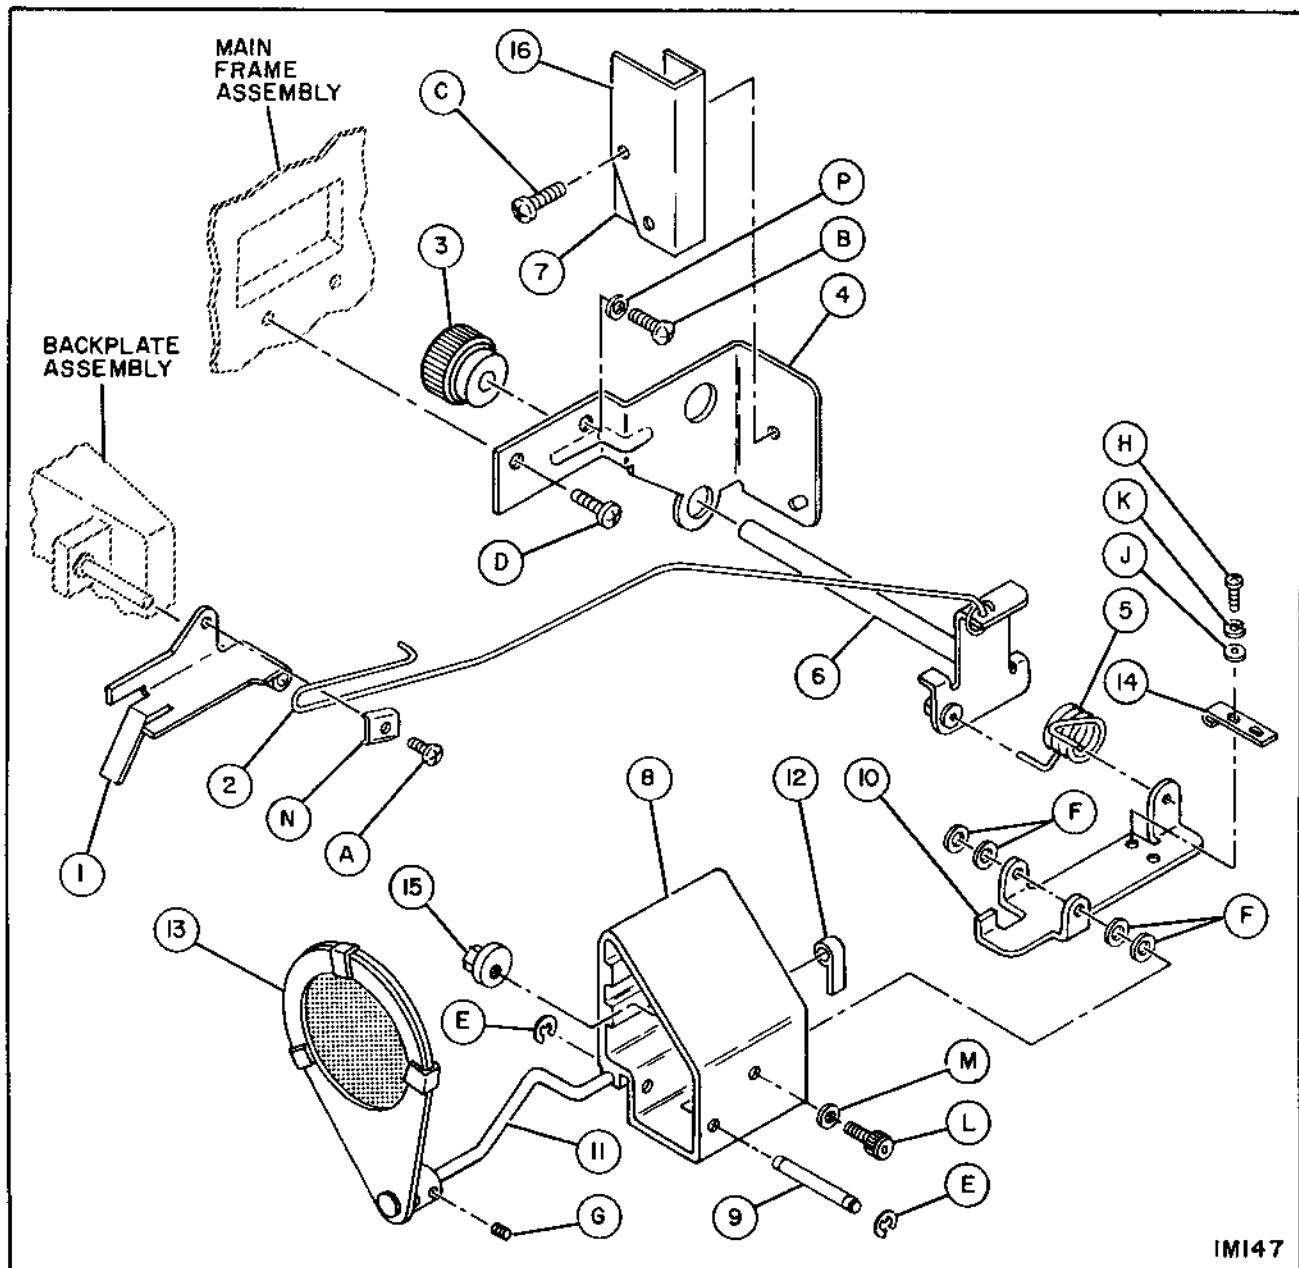

Figure 48
4. Remove control knob **3**, from front of unit. (Figure 48).
6. To disassemble lever support **4**, remove screws **C**, insulation **16**, switch **7**, and shaft assembly **6**. (Figure 48).